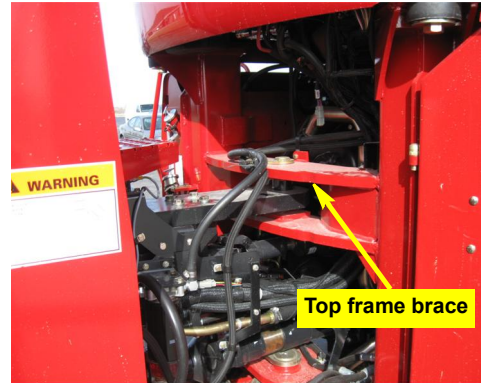

Figure 2b: Frame brace location
- b. Locate the top frame brace near the articulation point of the tractor (Figure 2b).